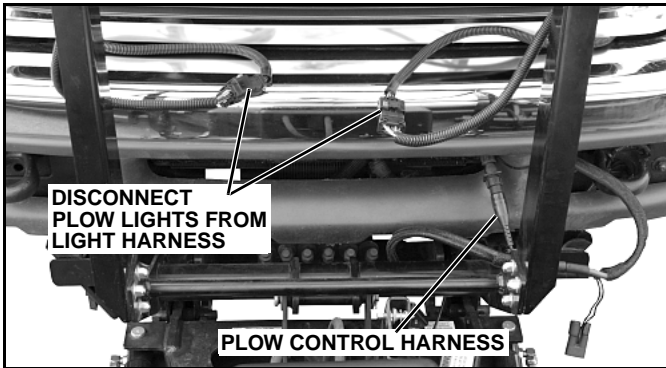

Figure 1-23
2. Disconnect the plow lights from the truck light harness (See Figure 1-23).